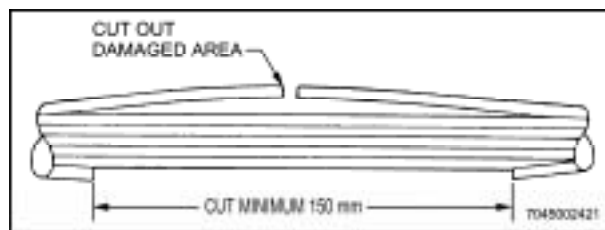

Figure 5-2 Removing Damaged Area
- d. Cut out the segment of wire with conductor or insulation damage. If a jumper wire is required, cut out at least 15cm of the damaged wire to allow room for splicing (Figure 5-2).